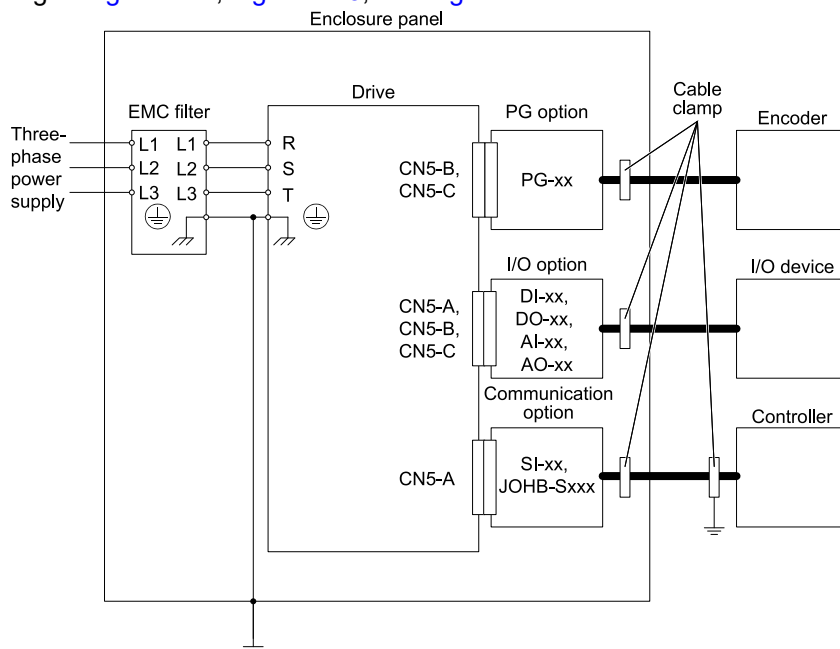
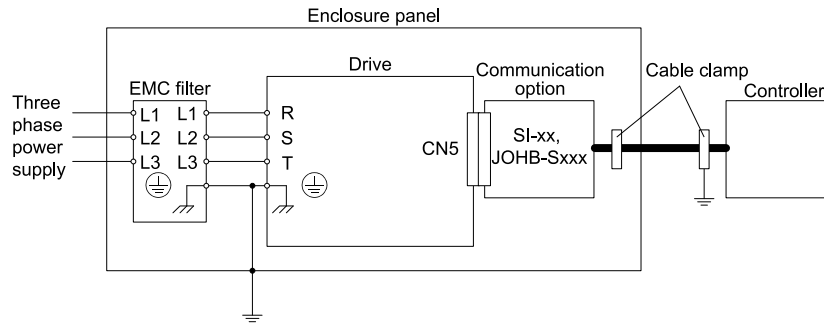

Figure 11.2 Option Installation for CE Compliance: 1000-Series, GA700, GA800, CR700, CH700
Figure 11.3 Option Installation for CE Compliance: GA500, HV600
2. Keep wiring as short as possible and ground the largest possible surface area of the shield to the metal panel according to Figure 11.2, Figure 11.3, and Figure 11.4.